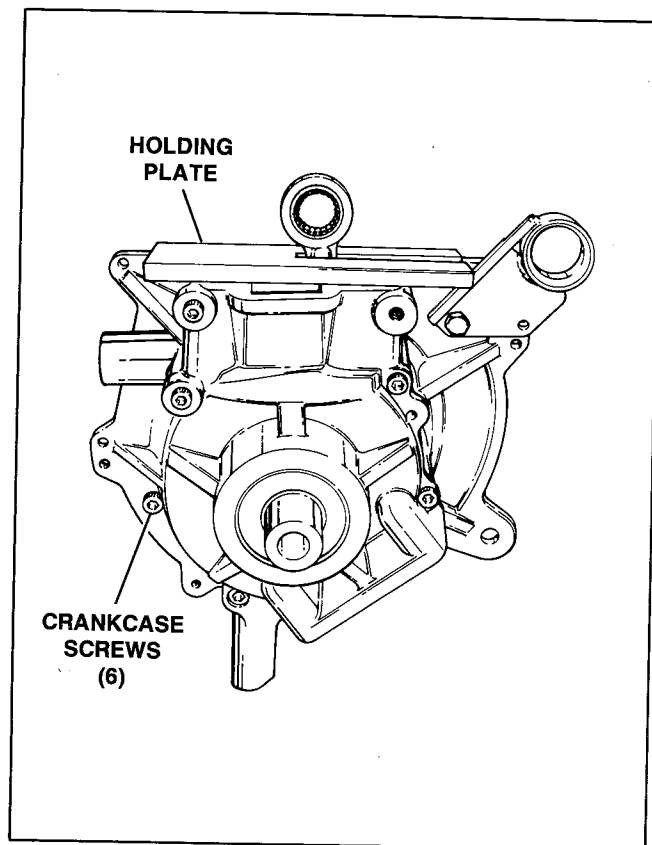

Figure 7-15 - Separate Crankcase Halves
- g. See Figure 7-15. Remove the crankcase screws. Tap lightly on the motor mount bosses (using a soft face hammer) and separate the crankcase halves slipping the crankshaft out of the transmission side of crankcase half.
- Place the crankcase halves on a press bed and lube and replace seal. Press in bearings (4). Install internal retaining rings (1).
- Insert the crankshaft in the transmission side of case and gasket (8) into crankcase halves and install the crankcase screws (1), Figure 7-15. Tighten crankcase screw to 7-9 ft.-lbs. torque.
- f. See Figure 7-15. Install fan housing (3), stabilizer bolt and nut (1) and fan housing screws (2).